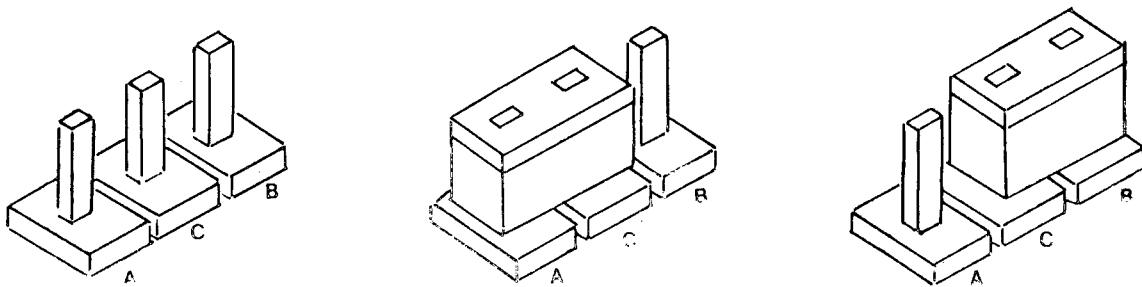

FIGURE 7-1-3. JUMPER CONNECTORS
Jumper connectors provide a means to make a semi-permanent selection of a particular operational function, for instance, the 'A' or 'B' function in Fig. 7-1-3 (1), where 'C' is the common terminal. If a jumper connection is called 'A-C', the jumper is connected as in configuration '2' in Fig. 7-1-3. If a jumper connection is called 'B-C', the jumper is connected as in configuration '3' in Fig. 7-1-3.